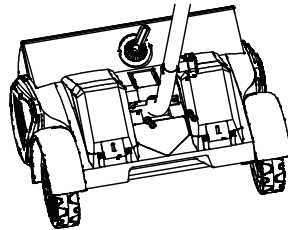

Fig. 4
6. Tighten the screws on both sides using a hex wrench (Fig.4).